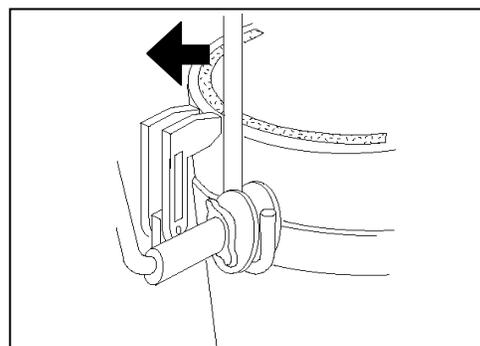

Figure 7. Release of Bail Lock Lever
Step 7: After a travel destination is reached, place the bail lock lever in the unlocked or released position. (See Figure 7.)